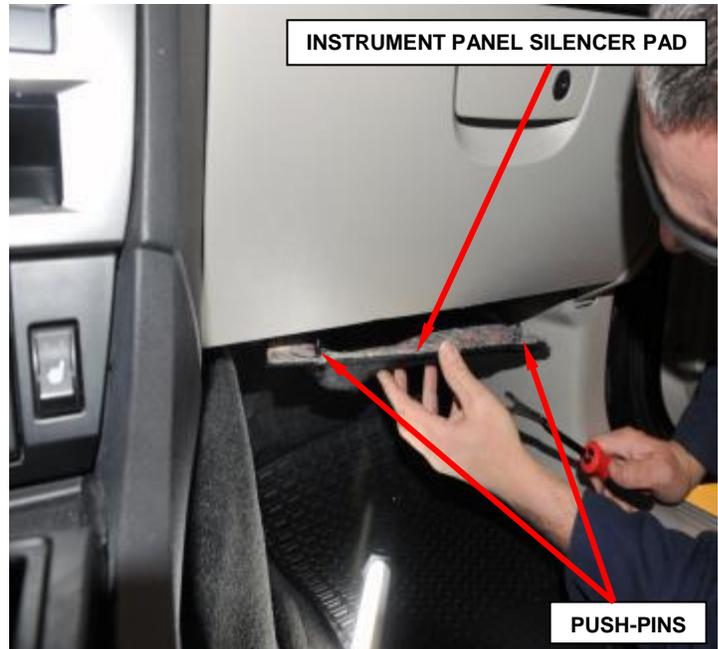

Figure 10 - Instrument Panel Silencer
- a. Remove and save the two push-pins that secure the instrument panel silencer to the instrument panel (Figure 10).